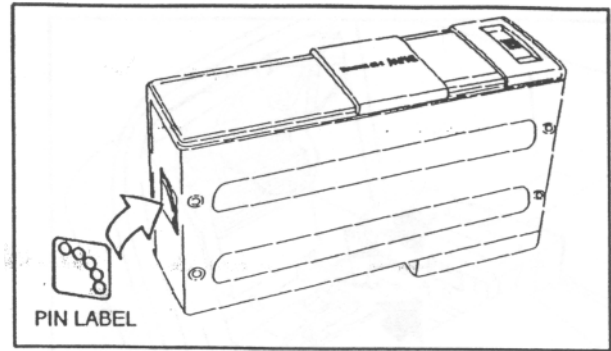

Figure 4
4. To protect the Spring Pin, cover the Pin area with the supplied Pin Label by aligning the two diagonally opposite holes with H and V positions (see Figure 4).